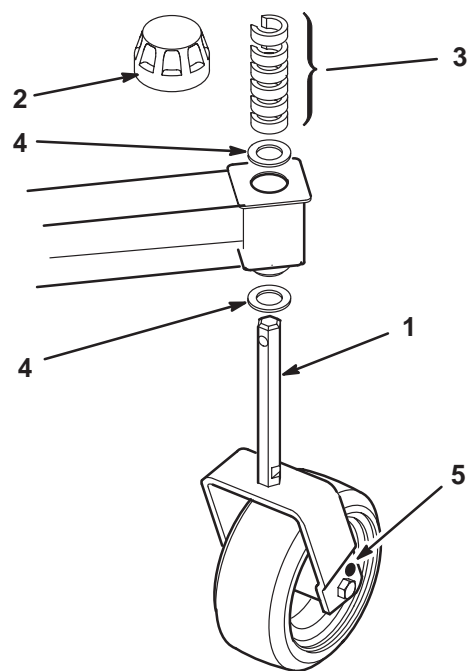

Figure 11
1. Remove the tensioning cap from the spindle shaft (Fig. 11).
2. Remove or add the C-shaped spacers at the narrow portion of the spindle shaft, below the castor arm, to get the desired height-of-cut (Fig. 11). Make sure that the thrust washers—not the spacers—contact the top and bottom of the castor arm.
3. Install the tensioning cap to secure the assembly (Fig. 11).